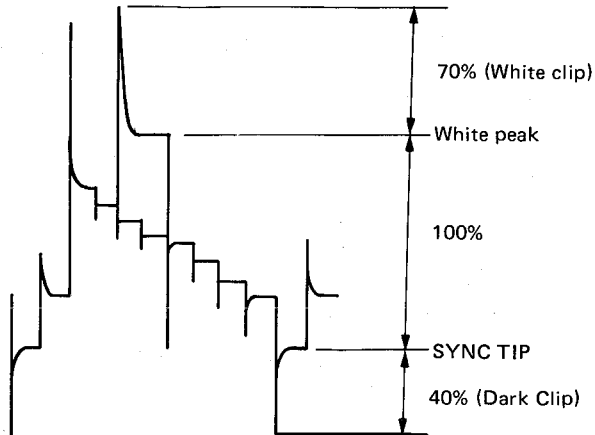

Figure 42.
- 3) Adjust R206 (White clip) and R224 (Dark clip) so that the clipping points can be as shown in Fig. 42.